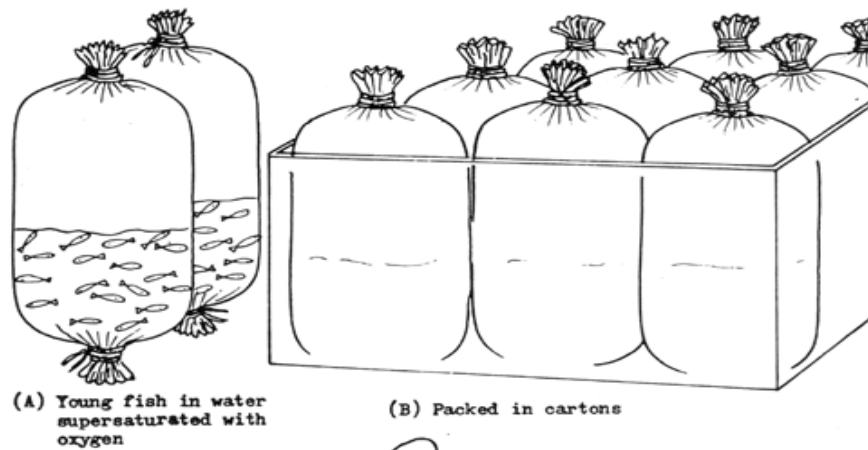

Figure 4-1: Packed fish ready for transport
- v. Fish can be transported in polybags or containers (Figure 4-1)